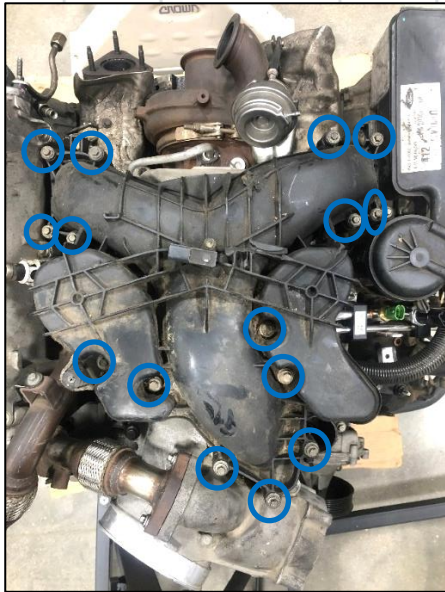

Figure 2: Intake removal
- a. There are QTY: 15, 8mm bolts (Figure 2). Use ¼" drive sockets, deep well and short, universal joint, and wobble socket to ease removal.